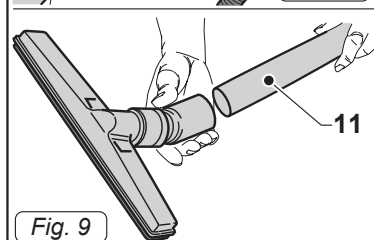

Fig. 9
- Hook the accessory required (floor tool, dusting brush, crevice tool, etc.) to the other end of the extension rod (11 Fig.9).